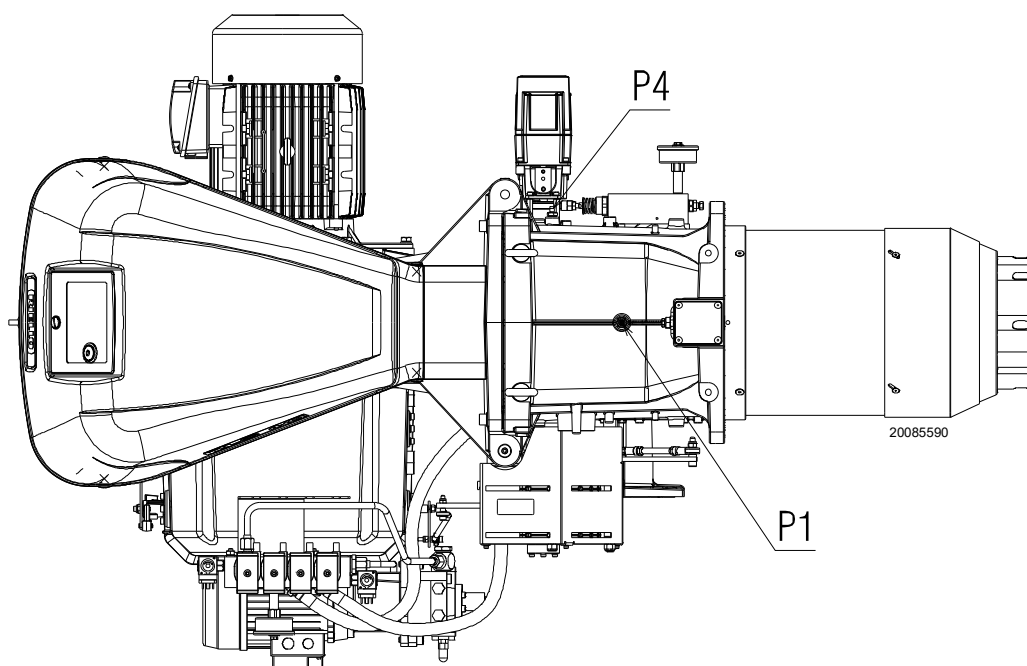

Fig. 24
Gas pressure measured at the test point P1)(Fig. 24), with:
- subtract the combustion chamber pressure from the gas pressure measured at test point P1)(Fig. 24).
Gas pressure at test point P1)(Fig. 24) = 29.4 mbar
To calculate the required gas pressure at test point P1)(Fig. 24), set the MAX output required from the burner operation:
- Read, on the right (column 1), the pressure at the test point P1)(Fig. 24).
Pressure required at test point P1)(Fig. 24).